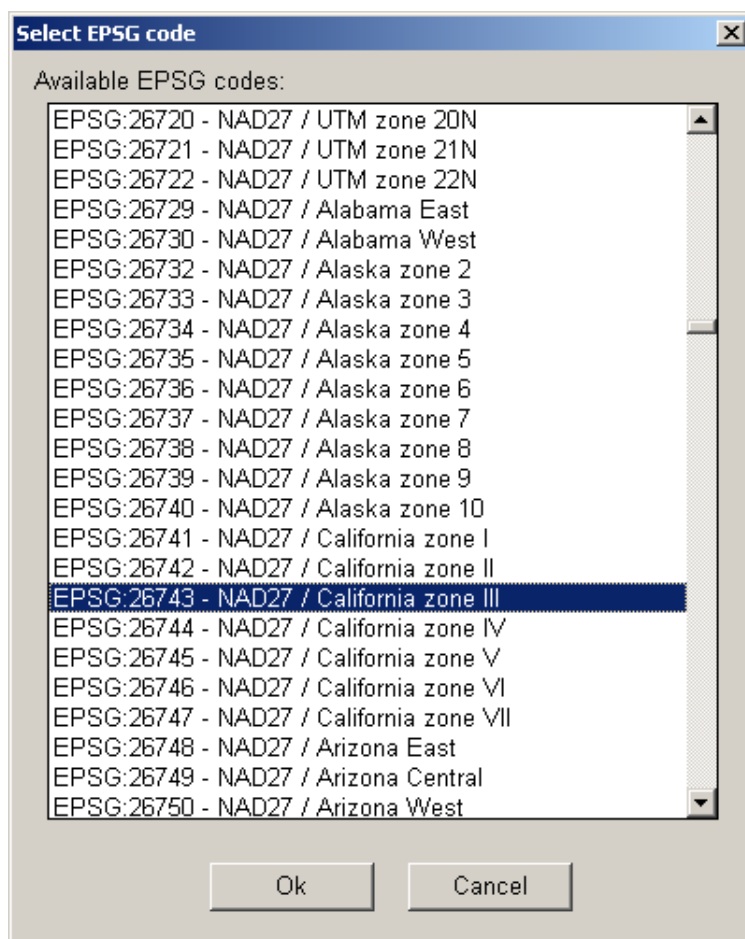

Figure 76: EPSG lookup dialog; select appropriate projection and press OK
3. **MagPick data projection, or +to.** This is projection used by MagPick to represent the data. Use proj syntax to specify projection parameters (see more on that subject in the next section). Perhaps easiest way to specify projection is to key in EPSG code⁸. In the example above it is **+init=epsg:2801** where “2801” is the code for Louisiana South State Plane, in meters. Knowledge of the EPSG code allows quickly define projection without going into projection type, parameters, etc (all that also can be specified using +to string). **EPSG** button on the right gives quick access to EPSG lookup table, showing EPSG codes and projections names, as it is shown on figure 76. There is no guarantee however that all EPSG codes are supported.